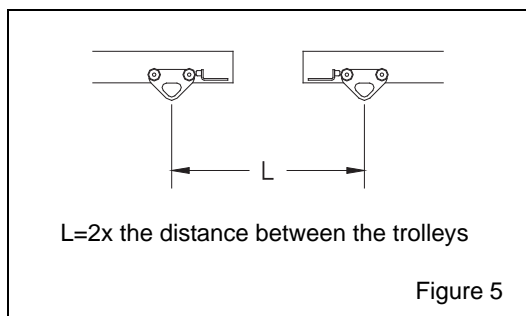

Figure 5
- 3 Measure the distance (L) between the two trolleys. See figure 5.